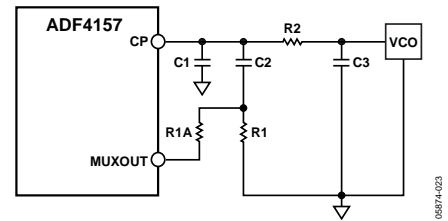

Figure 23. Fastlock Loop Filter Topology—Topology 2
- Connect an extra resistor (R1A) directly from MUXOUT, as shown in Figure 23. The extra resistor must be chosen such that the parallel combination of an extra resistor and the damping resistor (R1) is reduced to  $\frac{1}{4}$  of the original value of R1 (see Figure 23).